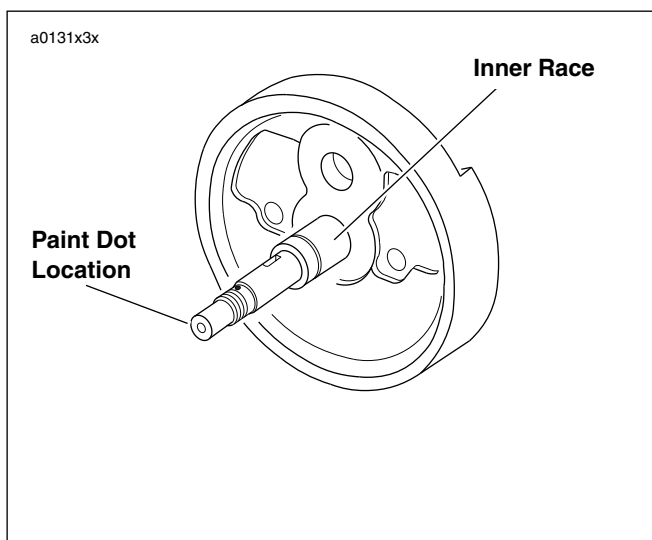

Figure 3-118. Factory Inner Race Paint Dot Location
14. See Figure 3-118. Installed inner races are identified at the factory as shown.